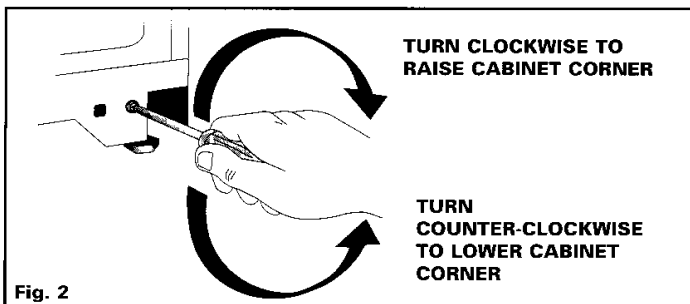

Fig. 2
- Adjust the wheels with a screwdriver or a 1/4" socket (see fig. 2).